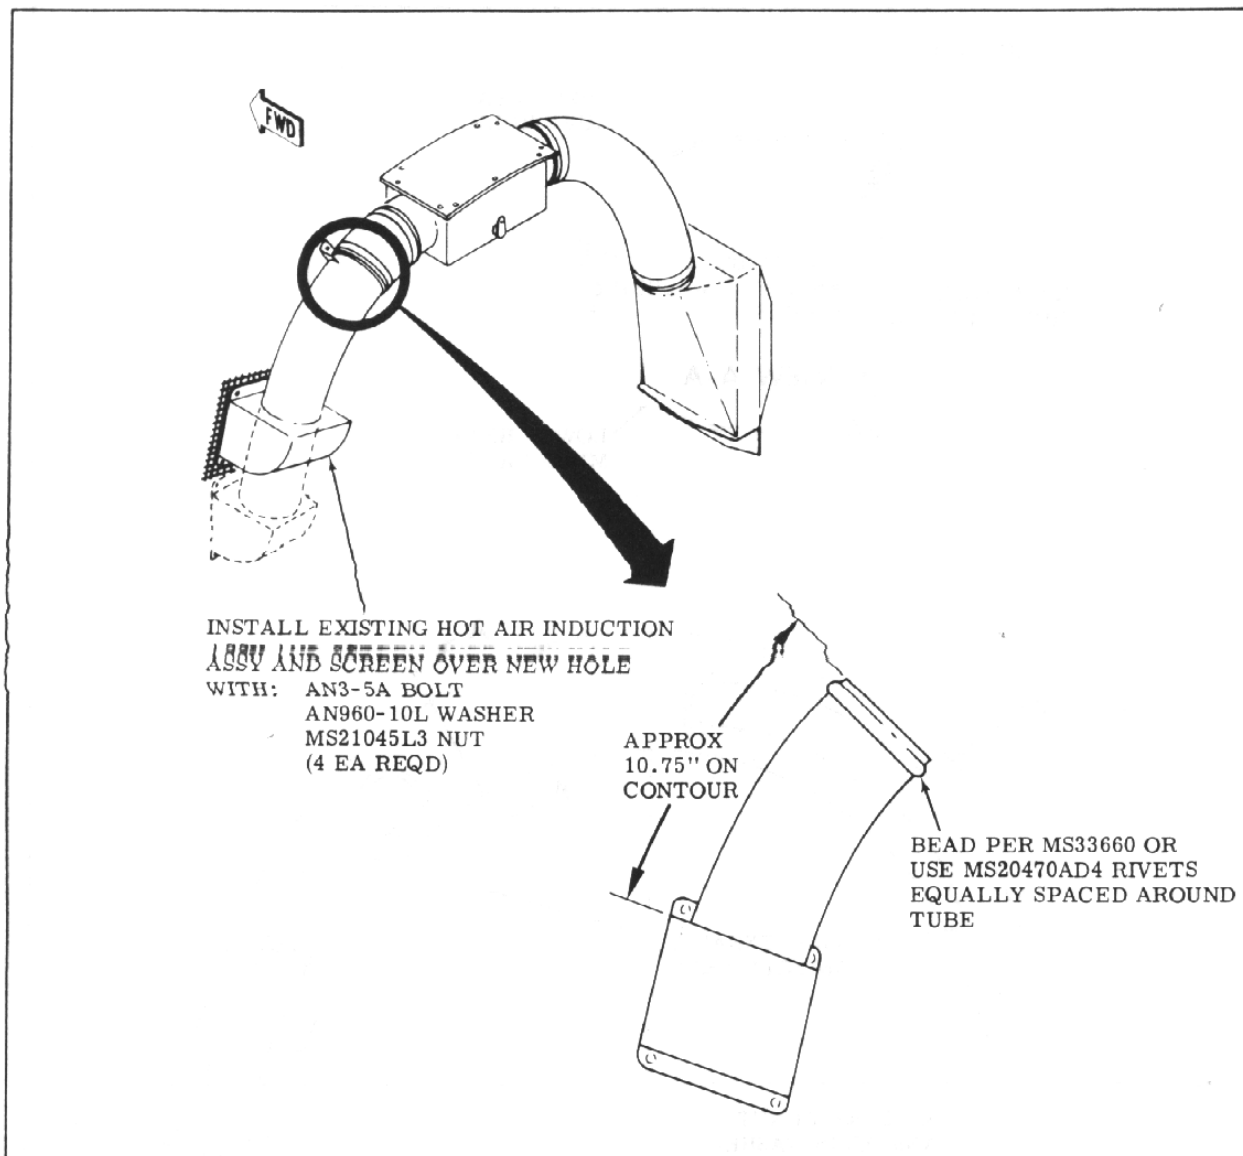

Figure 3.
23. Trim existing hot air induction assembly and bead the end (see Figure 3).
If hot air induction assembly is shorter than dimensions shown in Figure 3, it will be necessary to trim flex duct on installation.